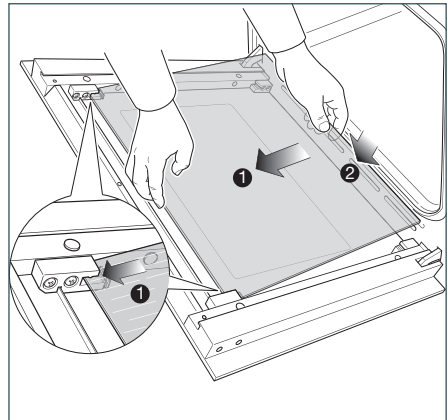
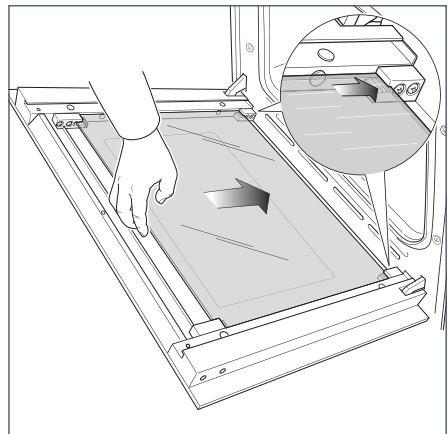

Fig.60b
Fig.60c
- Gently insert the top edge of the pane into the top clamps (arrow 1 in Fig. 60b), then lower the pane and insert the bottom edge into the bottom clamps (arrow 2 in Fig. 60b); and then slide the pane into position (Fig. 60c).